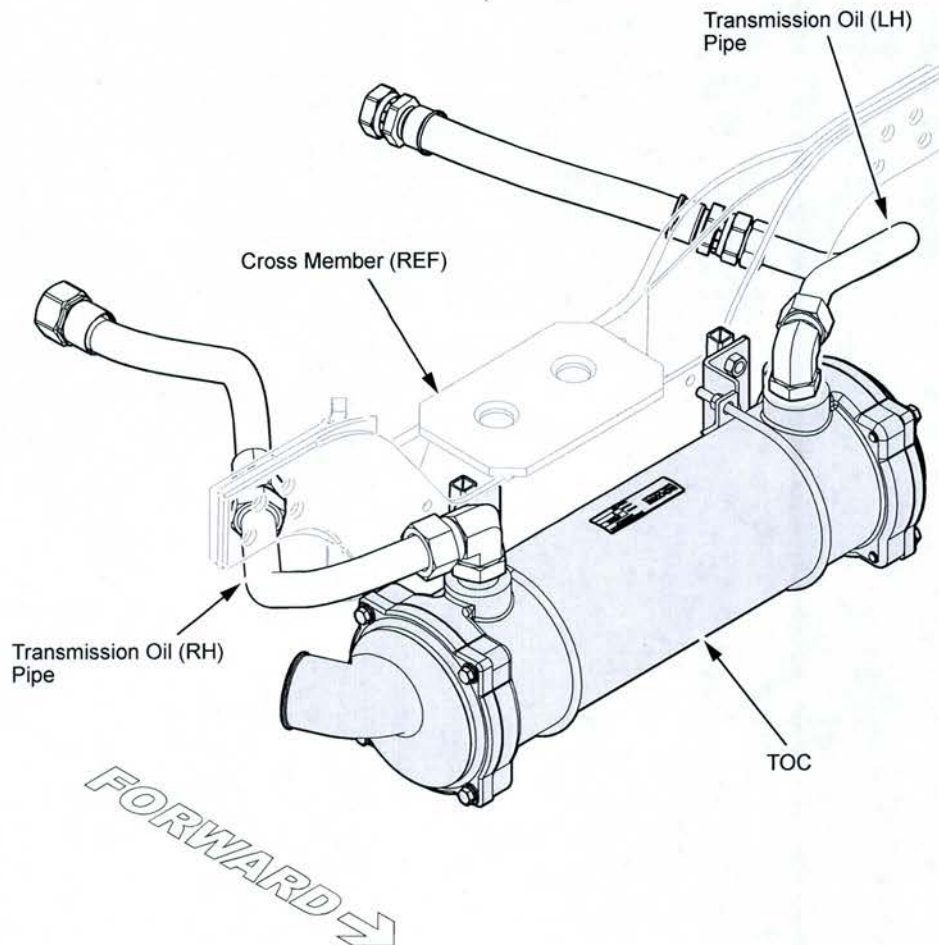
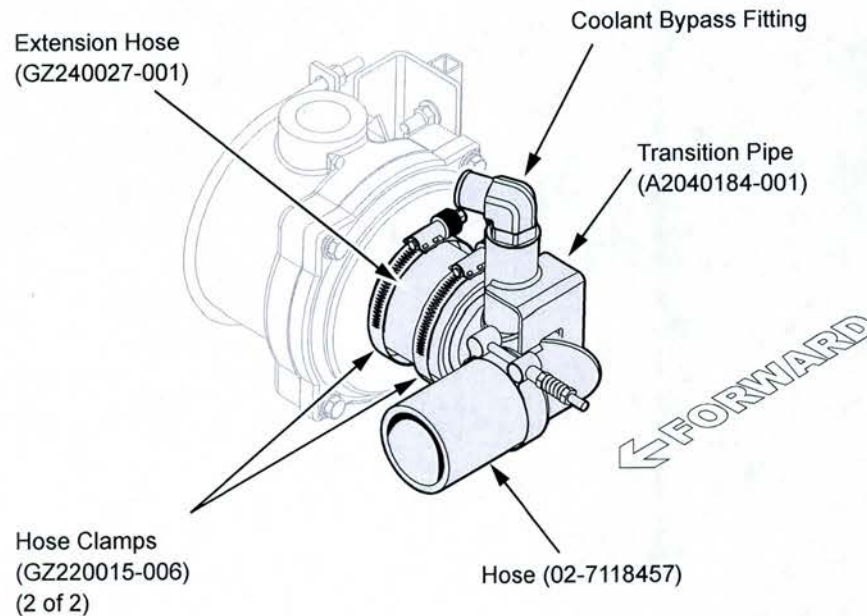
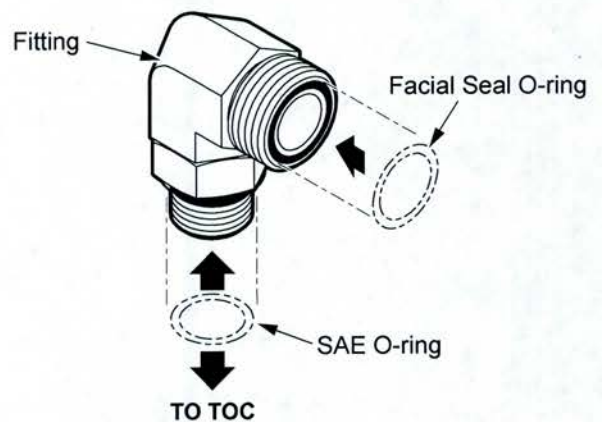

Figure 8
Figure 9
Figure 10
into the new TOC; then, connect the TOC pipes (RH/LH) to the fittings. Orient the fittings as noted during removal in step 8. Tighten to 150 ft-lb (203 N-m) of torque (see *Figure 8* and *Figure 10*)
16. On the LH side of the TOC, install the extension hose (GZ240027-001) and 2 hose clamps (GZ220015-006) (see Figure 9).
17. On the LH side of the TOC, install the transition pipe (A2040184-001) onto the extension hose and tighten the 2 hose clamps to 60 In-lb (7 N-m) of torque (see Figure 9).
the coolant bypass hose. Install the fitting onto the transition pipe; then, connect the coolant bypass hose to the fitting. Tighten to 85 ft-lb (115 N-m) of torque (see Figure 9 and Figure 10)